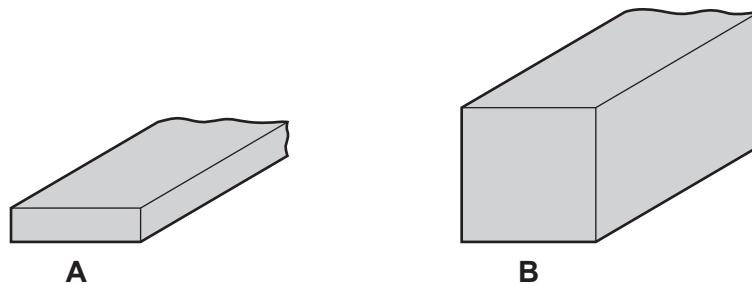

Fig. 12.2
- (a) The rectangular mild steel tube used for parts of the desk is a standard metal form. Fig. 12.2 shows two other standard metal forms, **A** and **B**.